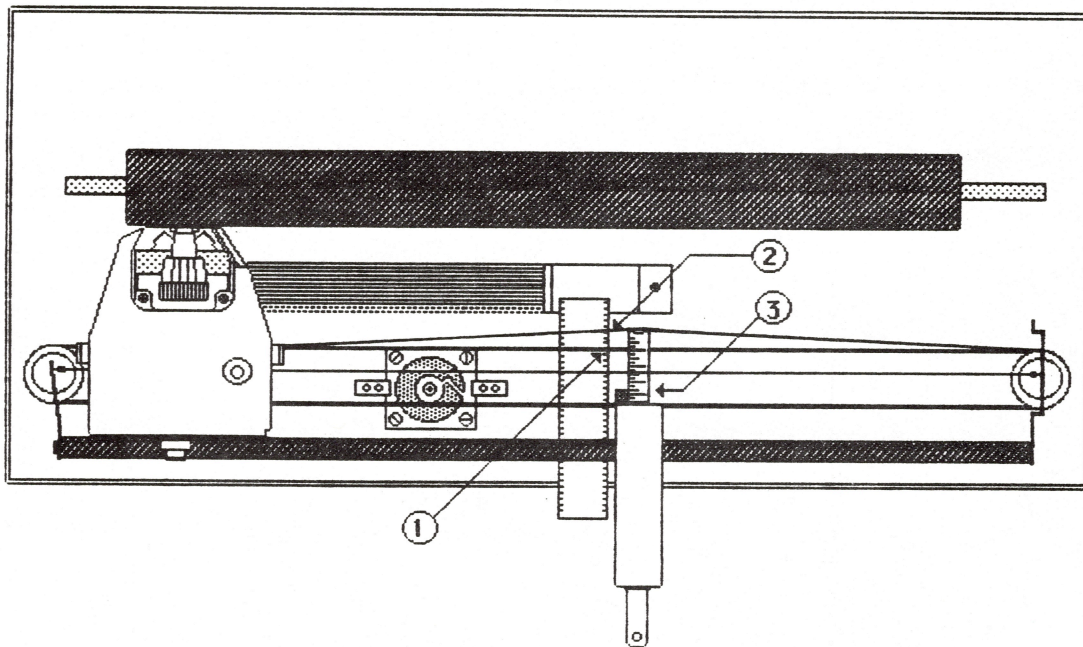

FIGURE 13
15. Lay a ruler under the carrier wire and visually mark the point where the rear carrier wire crosses the ruler (see Figure 13, #1). With the carriage assembly at the far left, push the carrier wire at its center with a tension gauge.
16. When the wire has been pushed 3/8 inch away from its original position (see Figure 13, #2), check the tension gauge (see Figure 13, #3). It should read 1 pound (lb.). If it doesn't, adjust the screw of the tension arm and recheck.